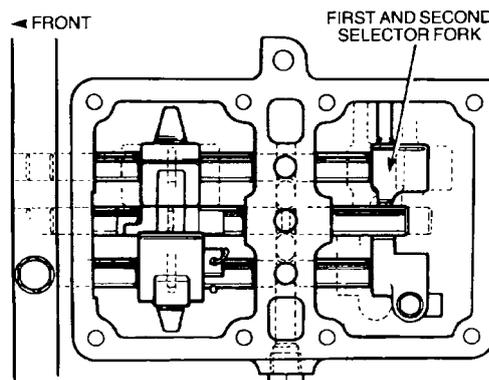

Figure 178 Installing the First and Second Gear Selector Fork
- ggg.** Locate the first and second gear selector fork in the sliding clutch groove with the boss on the fork facing towards the rear of the transmission (Figure 178). Position the boss on the right-hand side of the transmission.